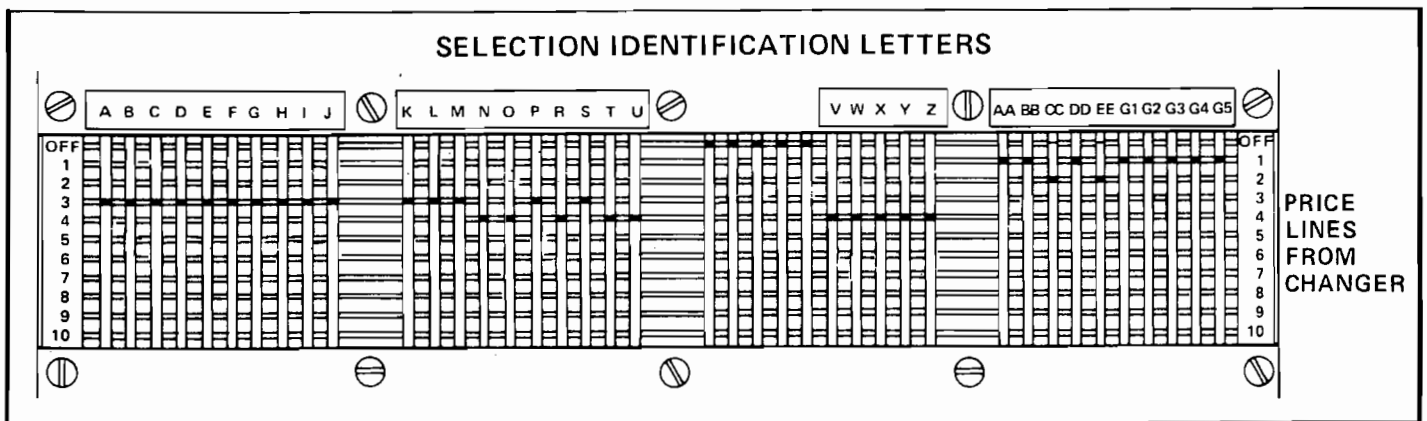

Figure 10. EXAMPLE OF HOW THE PRICE SETTING BOARD WILL LOOK WHEN PRODUCT PRICING SLIDERS ARE IN POSITION.
16. CHANGER (4 and/or 10 price): Unlatch and swing changer mounting bracket (see page 18, item 21) open 90°. Use the supplement changer manual sent with vendor for all pricing and servicing, etc. After servicing, return changer mounting bracket to its locked position.
17. PRICING: 4/10 PRICE CHANGERS: The selection price setting board (page 18, item 17) is located in the
lower center of the slide-out panel. Each selection has its own price setting slider on this board. Place the slider for each selection to its correct selling price as previously established in the changer. Top line (1) is number 1 line from changer. Second line (2) is number 2 line from changer, etc. See Figure 10.
1. The relay box used with a four-price changer has only one relay (item 1).
2. The relay box used with a ten-price changer contains one relay (item 6) and a time delay pack (item 11). Wires coming from the lower right corner of the relay box attach by means of quick-disconnects to the pricing board.
3. The relay box used with a multi-price changer has only one relay (item 12). There are no wires from this relay box to the pricing board.
12. PRICING BOARD: (Refer to page 18 and Figure 10, and 11, page 6,) The pricing board is located on the sliding panel behind the changer mounting bracket and below the relay box. The pricing board (item 17 and 17 A) allows pricing of each selection by means of a sliding switch to any of the price lines available from the changer. The pricing slide switches are the means of connecting the price line from the changer to the selection motors. The wires on the right side of the pricing board provide the price lines from the coin changer. The plugs on top connect the wires from the pricing board to the individual selection motors in the main product area, and to the individual Gum and Mint motors. Every